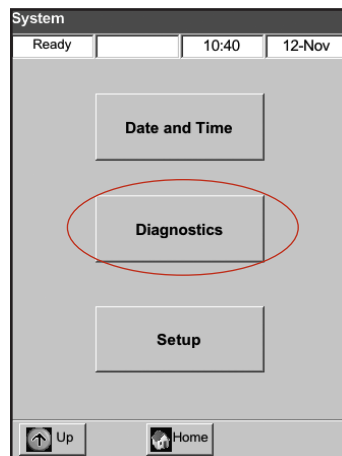
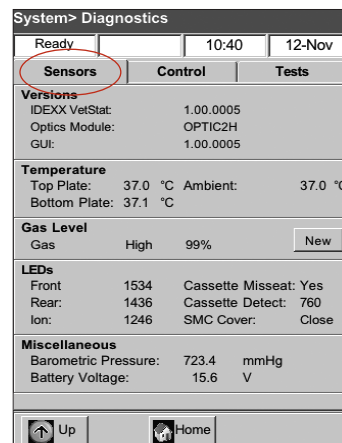
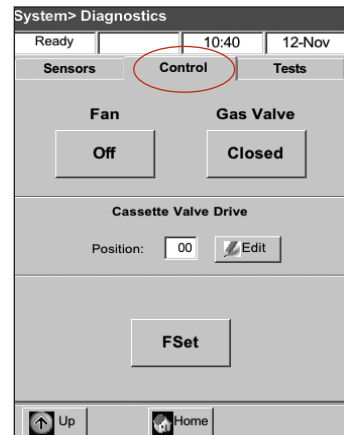
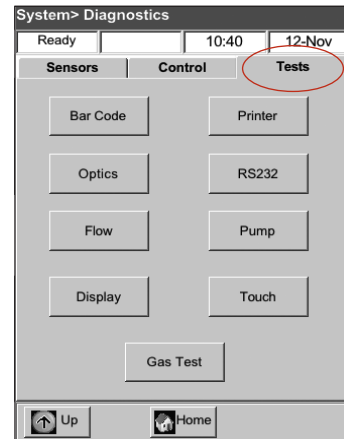

Figure J-1: System screen
Figure J-2: System > Diagnostics > Sensors tab
Figure J-3: System> Diagnostics> Controls tab
Figure J-4: System > Diagnostics > Tests tab
2. Tap **Diagnostics** (Figure J-1) and then tap the **Sensors** tab (Figure J-2).
2. Tap **Diagnostics** (Figure J-1) and then tap the **Control** tab (Figure J-3).
2. Tap **Diagnostics** (Figure J-1) and then tap the **Tests** tab (Figure J-4).